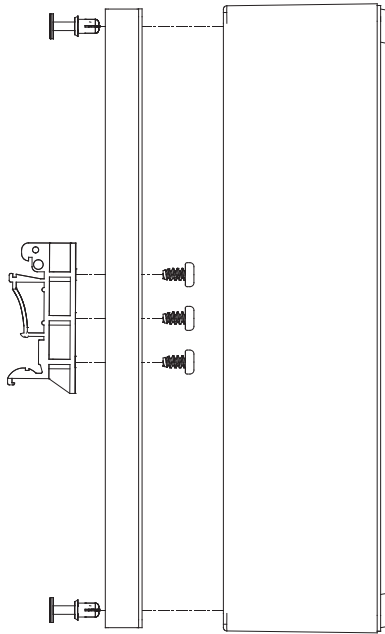

Figure 1: DIN rail adapters mounted horizontally
- (a) Align one DIN rail adapter with mounting bracket holes in desired position. Note that DIN rail adapters may be mounted in two ways, which affect how the adapter snaps into the DIN rail. See Figures 1 and 2.